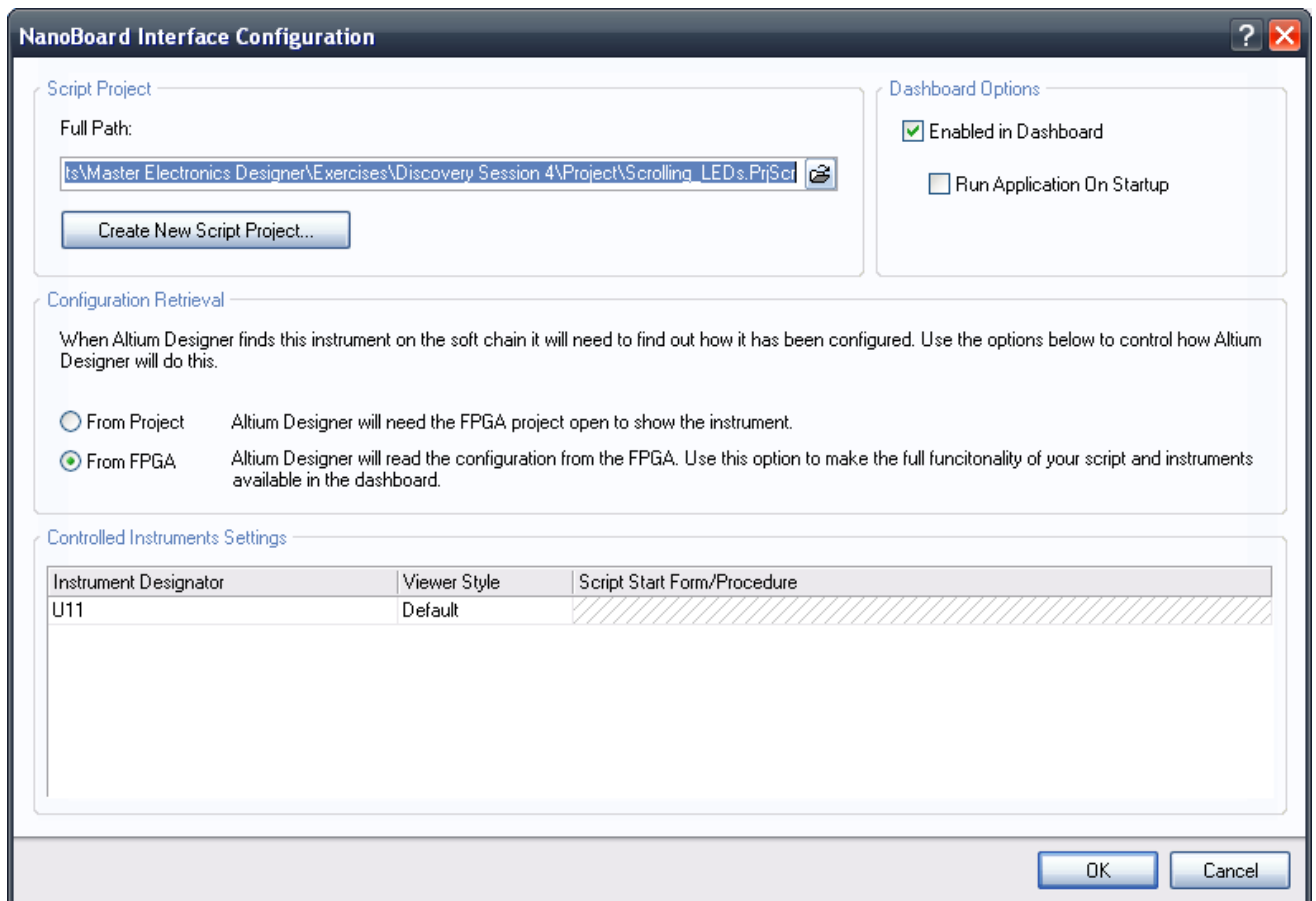

Figure 10. The script is connected to the Digital IO via the NanoBoard Interface component, and configured to be stored in FPGA block RAM.
35. The *NanoBoard Interface Configuration* dialog will open (Figure 10). Note that the lower region of the dialog shows which instrument is being controlled by the Interface Configuration component – it should display the current designator of this component. Click the **Create New Script Project** button to create and link an Altium Designer Delphi Script project to that instrument.
37. Set the **Configuration Retrieval** option in the *NanoBoard Interface Configuration* dialog to **From FPGA**, as shown in Figure 10. This stores the configuration information in FPGA block ram, allowing the script to be run directly from the Altium Instrument Dashboard (a small application that gives access to FPGA instruments without needing Altium Designer to be installed). Click **OK** to close the dialog.